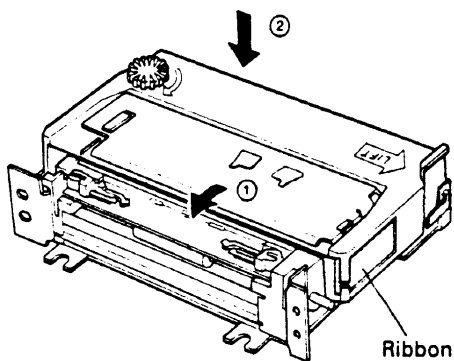

Fig. 2-5. Installation of the Ribbon Cassette
- (2) Insert (in the  direction ①) the ribbon between the dot head unit and the paper guide unit, then set the ribbon in the  direction ②. (See Fig. 2-5.)
- (3) Turn the knob of the ribbon cassette by finger once more in the  direction to confirm that the ribbon cassette is securely installed.